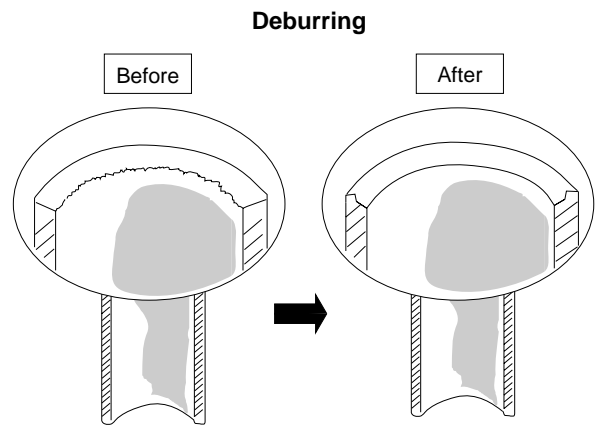

Fig. 37
- (1) Cut the copper tube to the required length with a tube cutter. It is recommended to cut approx. 12 to 16 in. longer than the tubing length you estimate.
- (2) Remove burrs at the end of the copper tube with a tube reamer or file. This process is important and should be done carefully to make a good flare. (Fig. 37)